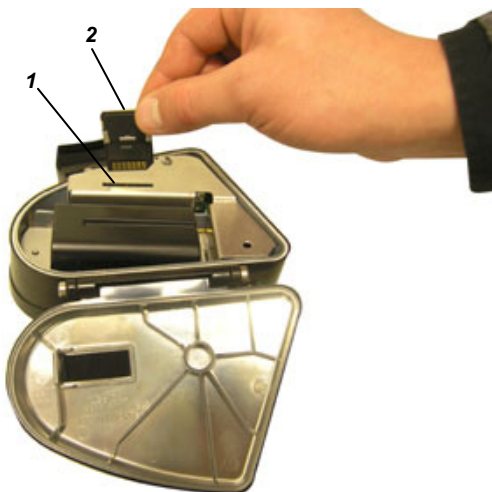

Fig. 5 Removing and inserting the RS-MMC card
- (1) Release the recorder cover catch and open the cover.
- (2) Push the RS-MMC card carefully into the slot provided with the contacts downwards and with the bevelled corner to the right (→ Fig. 5) until the stop is reached. Release the card as soon as a slight click is heard.